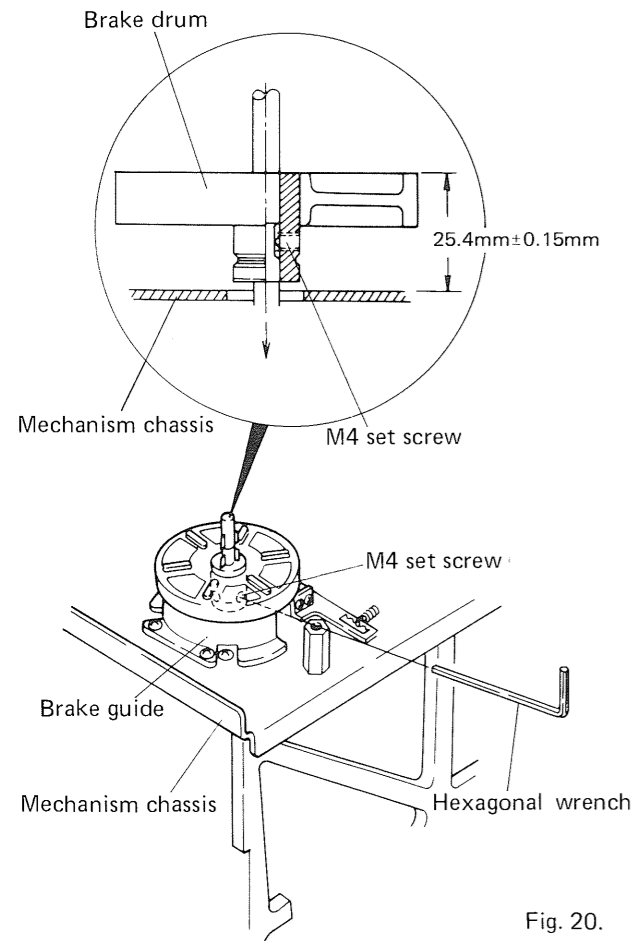

Fig. 20.
2. Loosen and adjust the set screw with an allen wrench as illustrated in Fig. 20 so that the clearance between the mechanism chassis and brake drum becomes $25.4\text{mm} \pm 0.15\text{mm}$.